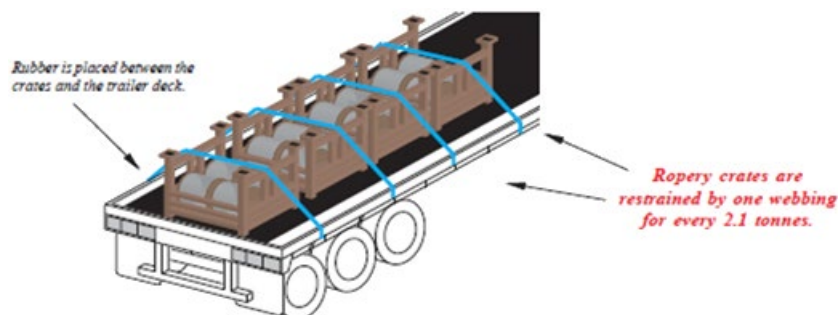

Figure 1: Crates restrained on truck
- ✓ Crates must be restrained by at least **one webbing strap for every 2.1 tonnes**, as showing in Figure 1.